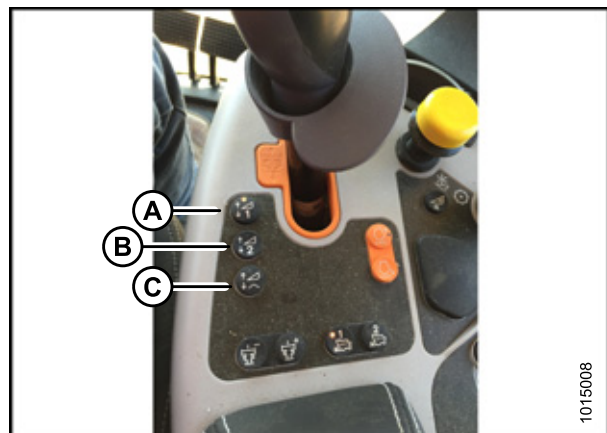

Figure 6.239: New Holland Combine Controls
5. Select one of the auto height set point buttons shown in Figure 6.239: *New Holland Combine Controls, page 254*.